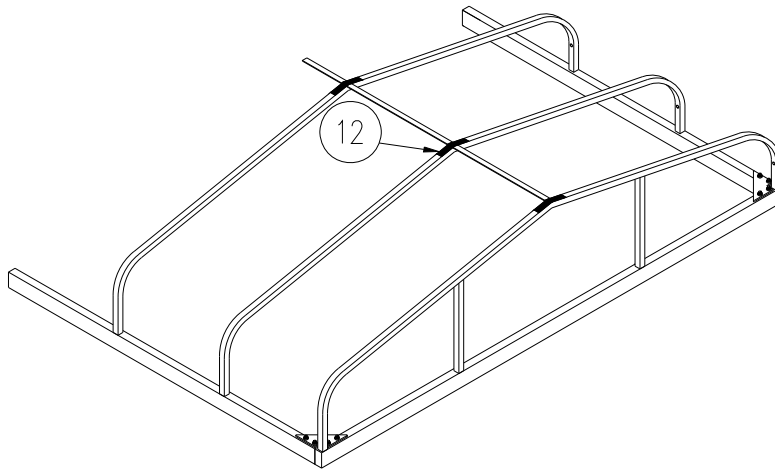

Figure 2-6.
10. Refer to **Figure 2-6**. Clean the top of the canopy bands at splice ends, 1/4" carriage bolt heads, and top of ribs (about 5 inches each side of bolt) with cloth dampened in rubbing alcohol. Allow surface to dry.